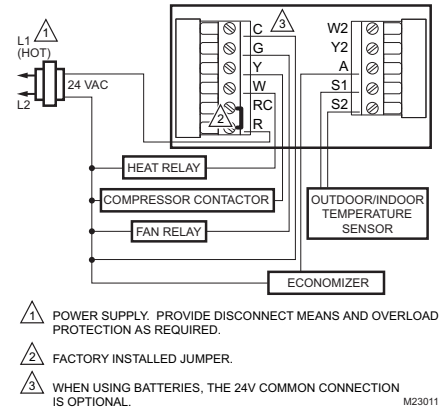

Fig. 6. Typical wiring of single transformer 1H/1C system.
- See Fig. 6 through 16 for wiring diagrams for specific equipment applications.